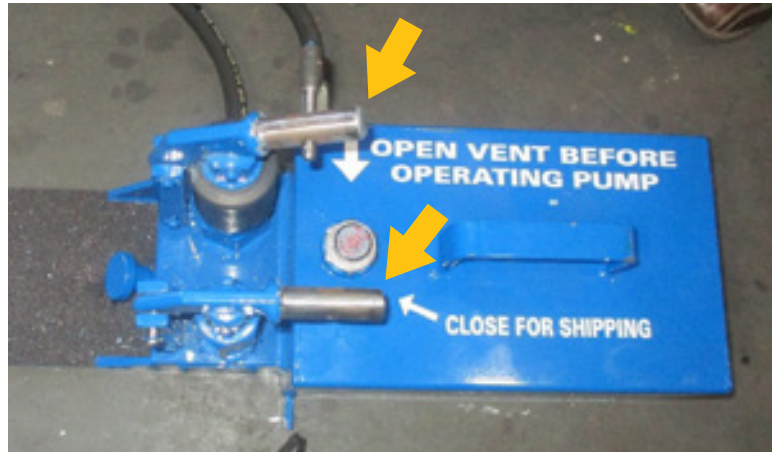

*Figure 5.31 - Manual Hose Connections*
- 5.5.2 Connect pressure hose to inlet “PRESSURE” connection and connect the return line to “RETURN” connection (*Figure 5.31*).